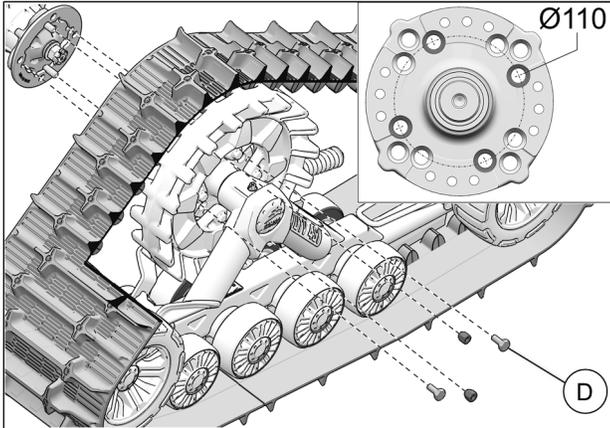

Fig. 12 RTV-X 900 | 1100 | 1120
11. Installation of Track Systems on vehicles with **ALUMINUM WHEELS** using the original wheel bolts, is problematic due to bolt thread length. These vehicles must absolutely use the wheel bolts (D) provided in the installation kit.
12. Secure undercarriage to rear hub using the vehicle's wheel nuts and the M12 wheel bolts (D) provided in the installation kit. Use bolt circle $\varnothing 110$ mm. See Fig. 12